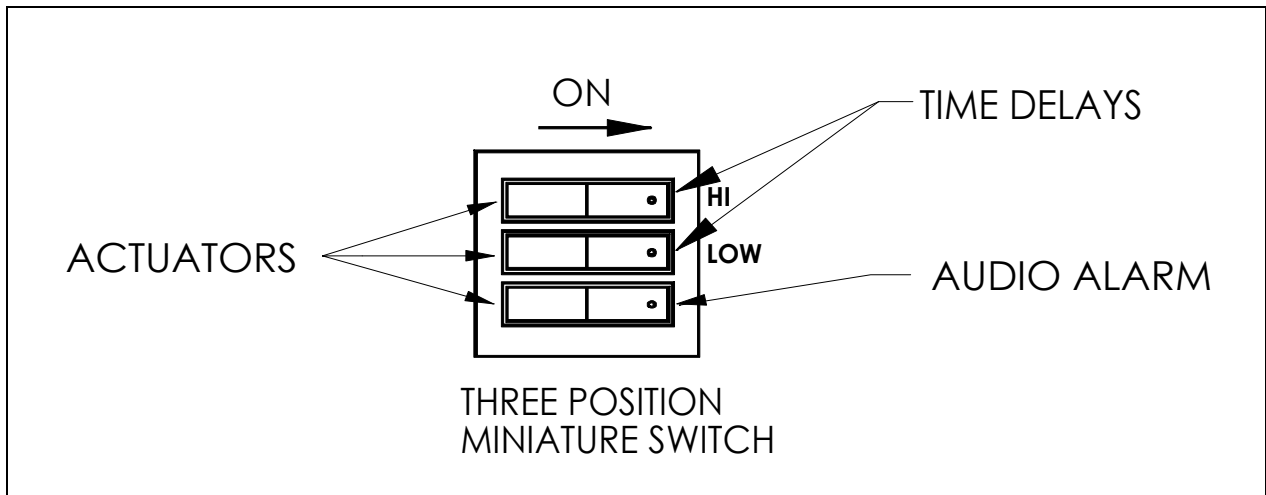

Figure 1: Three-circuit miniature switch.
The AMC-1040 is a two-channel gas monitoring system designed with built-in sensors to continuously monitor surrounding air for traces of hazardous gases. Each channel comes with the following features (see Figures 1, 2 and 3).
9. THREE CIRCUIT MINIATURE SWITCH: Each actuator on the miniature switch controls a different circuit as shown in Figure 1.
Once power has been turned on, the GREEN power LED will light. A one-minute time delay eliminates false alarms from occurring during the sensor's warm up period. After this time delay, the unit becomes fully operational. If time delays are required or the audio alarm indicator is not needed, the three-circuit miniature switch can be set accordingly. Refer to Section 3, Item 9 and Figure 1.